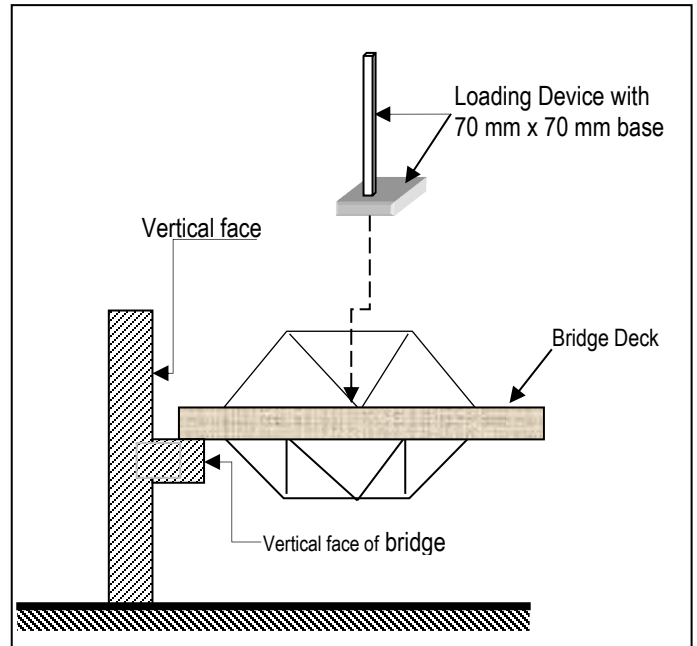

Figure 2: Configuration of Bridge Loading Device
- (a) The bridge shall be constructed with an unobstructed area above the bridge deck at mid-span to allow for vertical loading on the deck from above with a 70 mm x 70 mm loading device shown in Figure 2.
- (f) No part of the bridge will be allowed to touch any vertical face of the bridge support structure as shown in Figures 2 and 3.
- (c) The bridge will be placed in the test apparatus (see Figures 2 & 3) with both ends of the bridge resting on the horizontal metal supports.